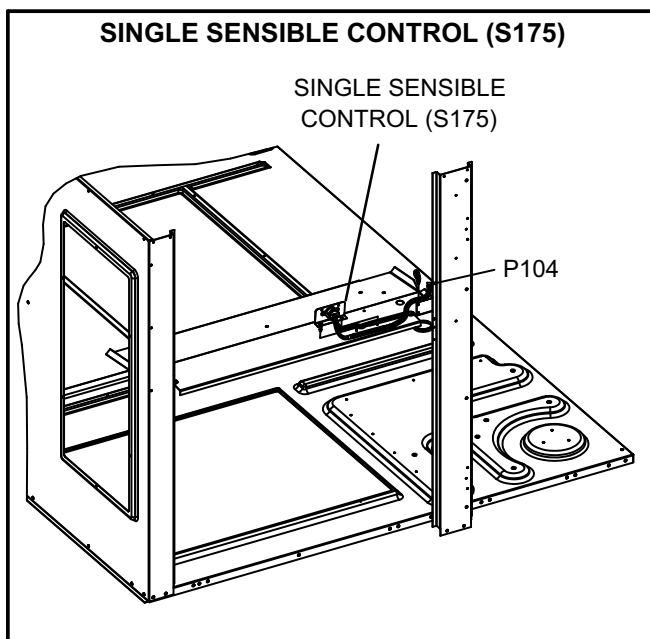

FIGURE 5
- 2- Install mounting bracket on divider panel as shown in figure 5. Secure with #8 - 32 X 1/2" TFS screws.
- 2- Insert P104 plug into J104, previously installed in the side of the economizer as shown in figure 5 and 7.